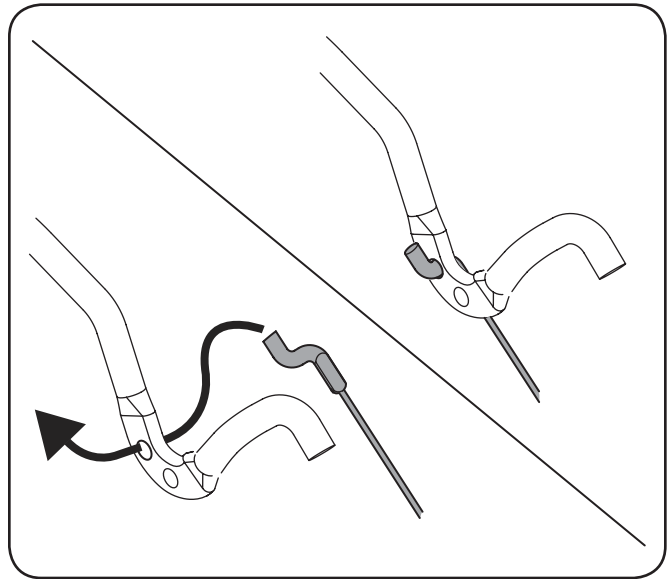

Figure 6-6
4. There is now sufficient slack in the drive control cable to grasp the z-fitting with your hand and move it from the front hole to the rear hole of the drive control. See Fig. 6-6.